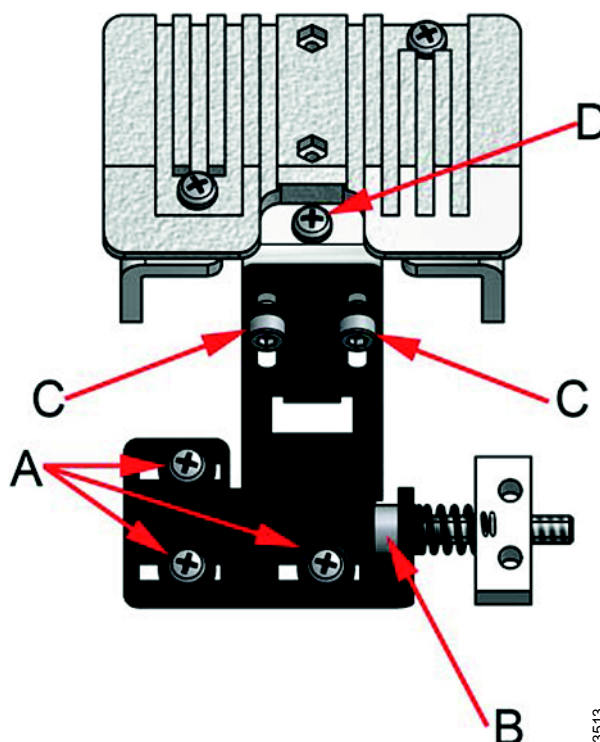

Fig. 4-146
2. If the light-field needs to be moved laterally, loosen (not remove) the fixing screws A, see **Fig. 4-146**.